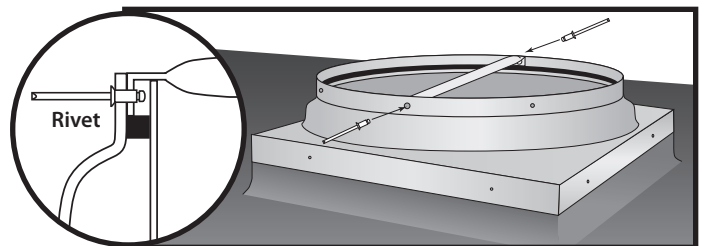

Figure 3
Step 3 Place the head of the 3/16" rivet through the pre-drilled hole on the flashing and into the pre-drilled hole on the "L" shaped tab on the security bar. Place one rivet on each side of security bar. (see Figure 3)